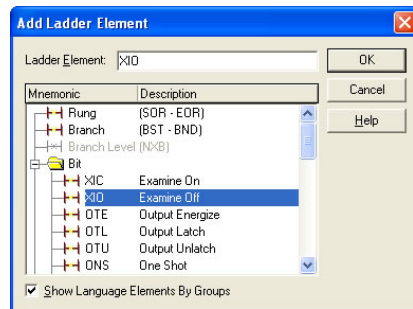

Figure 57: Adding an XIO Element
- c) Select the “XIO” element in the Bit folder. Refer to Figure 57.